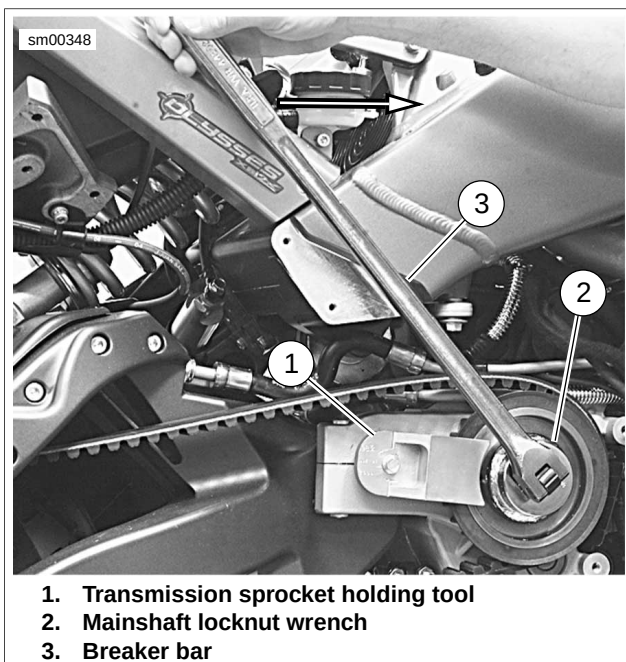

Figure 6-101. Removing Transmission Sprocket Locknut
8. See Figure 6-101. Place transmission in neutral. Install the P3/Blast sprocket holding tool (1) to hold the sprocket.
- See Figure 6-101. Scribe a line on the transmission sprocket nut and continue the line on the transmission sprocket as shown.